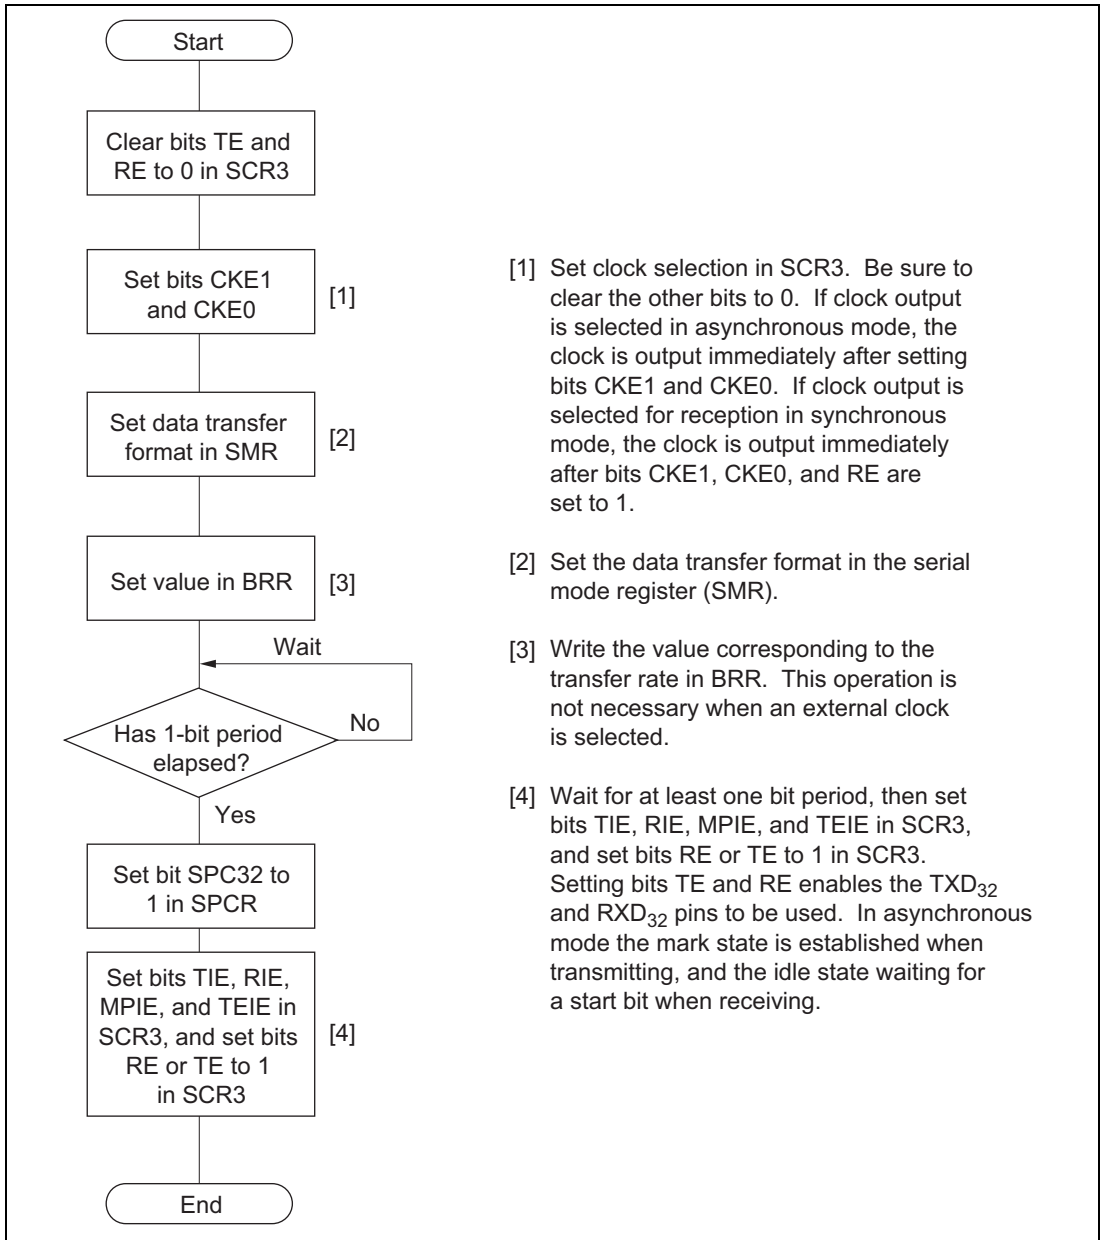

Figure 10.5 Example of SCI3 Initialization Flowchart
Figure 10.5 shows an example of a flowchart for initializing SCI3.
Data transfer on SCI3 first of all requires that SCI3 be initialized as described in section 10.3.2 (3), (a) SCI3 Initialization, and shown in figure 10.5.